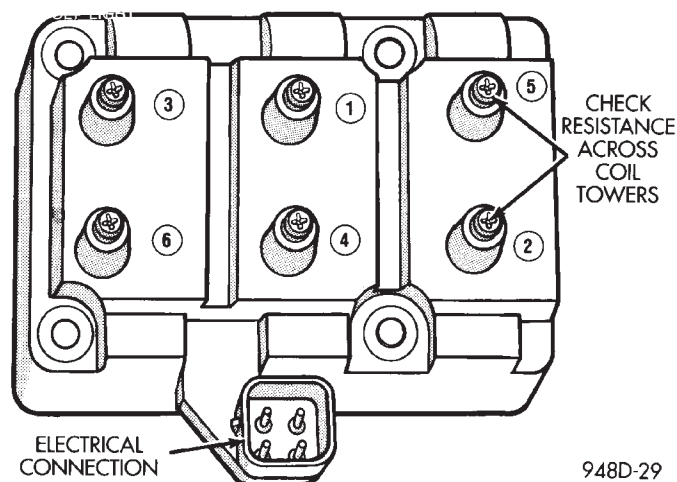

Fig. 19 Checking Ignition Coil Secondary Resistance
(3) Remove ignition cables from the secondary towers of the coil. Measure the secondary resistance of the coil between the towers of each individual coil (Fig. 19). Secondary resistance should be 7,000 to 15,800 ohms. Replace the coil if resistance is not within tolerance.